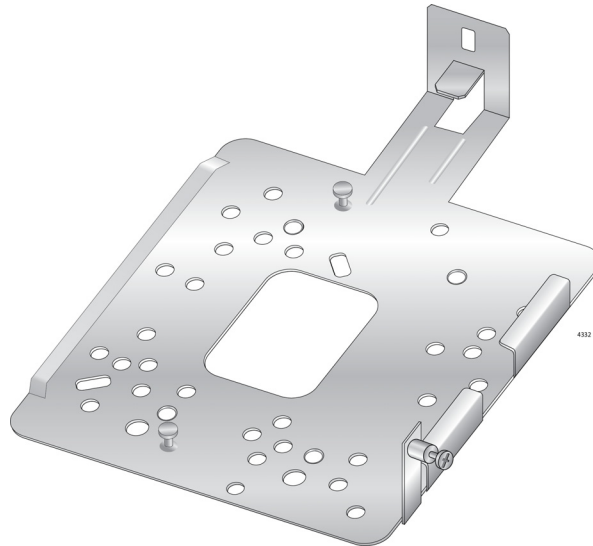

Figure 6. AT-BRKT-MWS01 Mounting Base Plate
1. Remove the AT-BRKT-MWS01 mounting base plate from the shipping box and verify the product. See Figure 6.